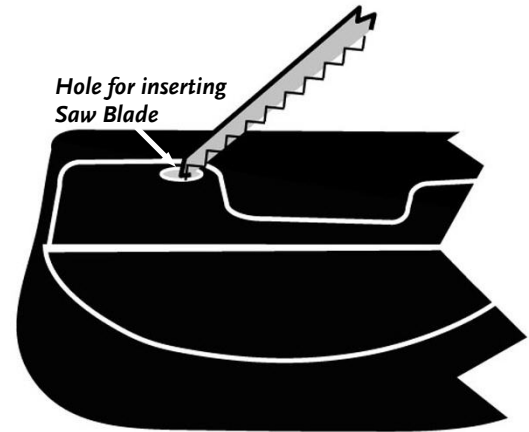

Figure 29
- a) Drill a Pilot Hole (**Figure 29**) near the Contour Line.